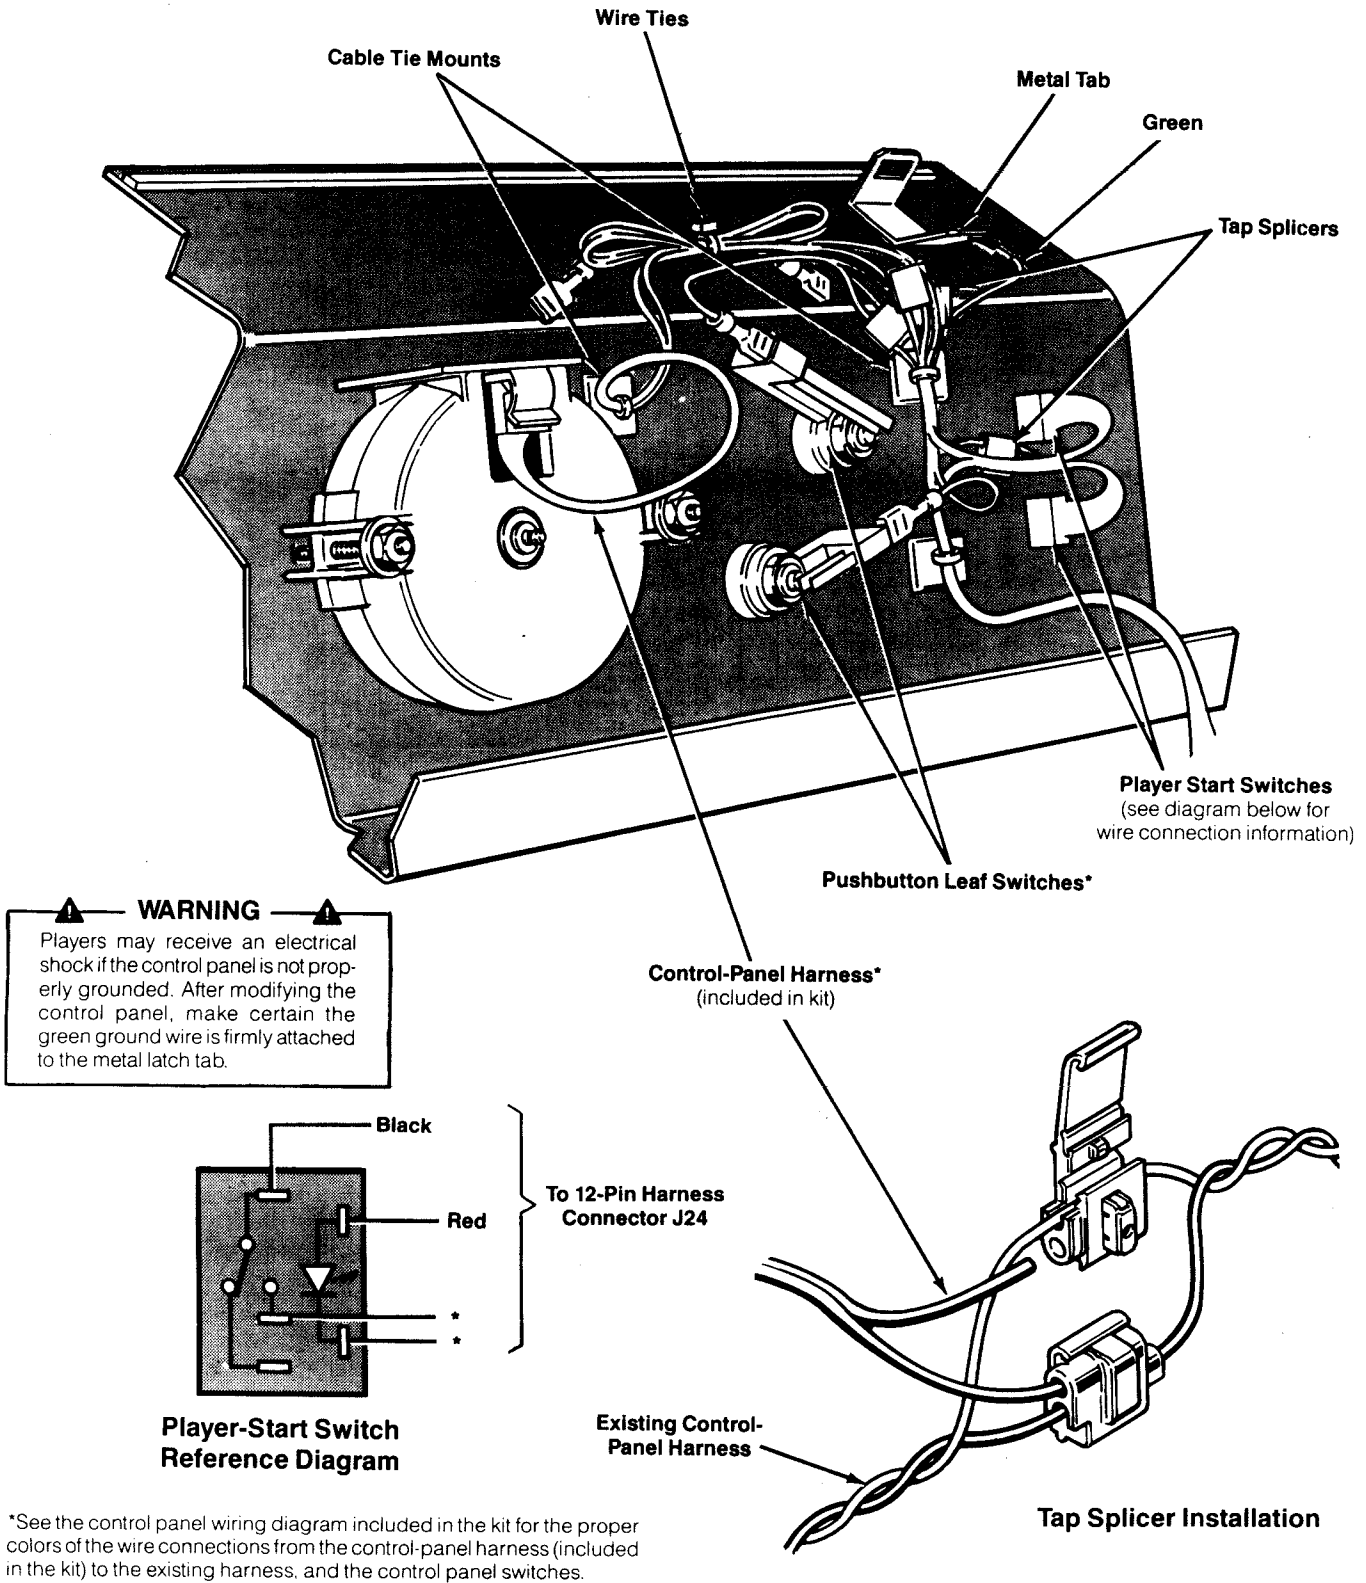

Figure 9 Modifying and Installing the Control-Panel Harness
Perform the following procedure to modify and install the Space Duel, Gravitar, or Black Widow control-panel harness (see Figure 9).
1. Use pliers to attach the tap splicers and connect the violet, black, red, and blue wires from connector P52 (included in the kit) to the appropriate wires of the existing control-panel harness. Refer to the control-panel wiring diagram (included in the kit) and Figure 9 for the proper harness-wire connections to connector P52 and to the control-panel switches.
3. Connect the modified control-panel harness to the Major Havoc control panel as shown in Figure 9. Make certain that: (1) the green ground wire is securely attached to the metal tab on the control panel; (2) the wire ties and cable tie mounts (included in the kit) are installed; and (3) the excess wire is securely and neatly tied to prevent the excess and unused wires from contact with the control-panel switches when the control panel is closed.